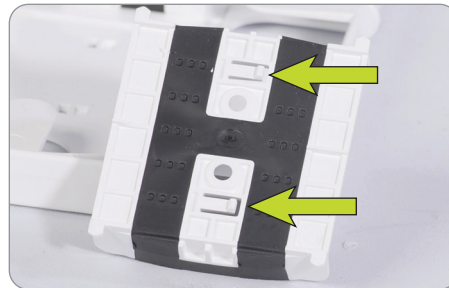

Figure 2
1. To add a splice module to Apex splice tray, simply align the latch tabs. (Figure 2)